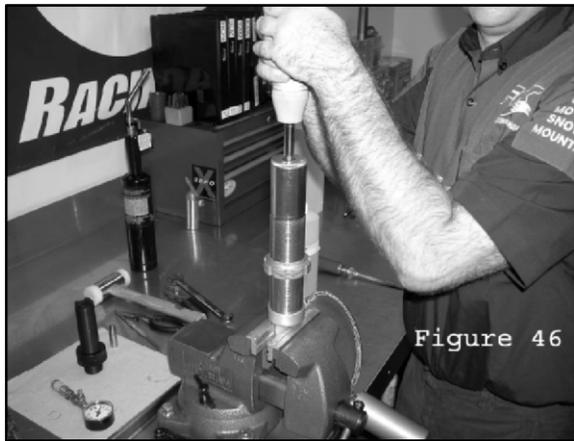

Figure 46
86. Compress shock completely. (Fig. 46) Roughly 90 pounds of force is required to initiate movement of shaft. Once shock is fully compressed, turn rebound adjustment knob clockwise until it stops. Let go of the shaft. The shaft should extend very slowly (or not at all). Turn rebound adjustment knob counter clockwise and set to the position recorded previously. The shaft should speed up as adjuster is opened.